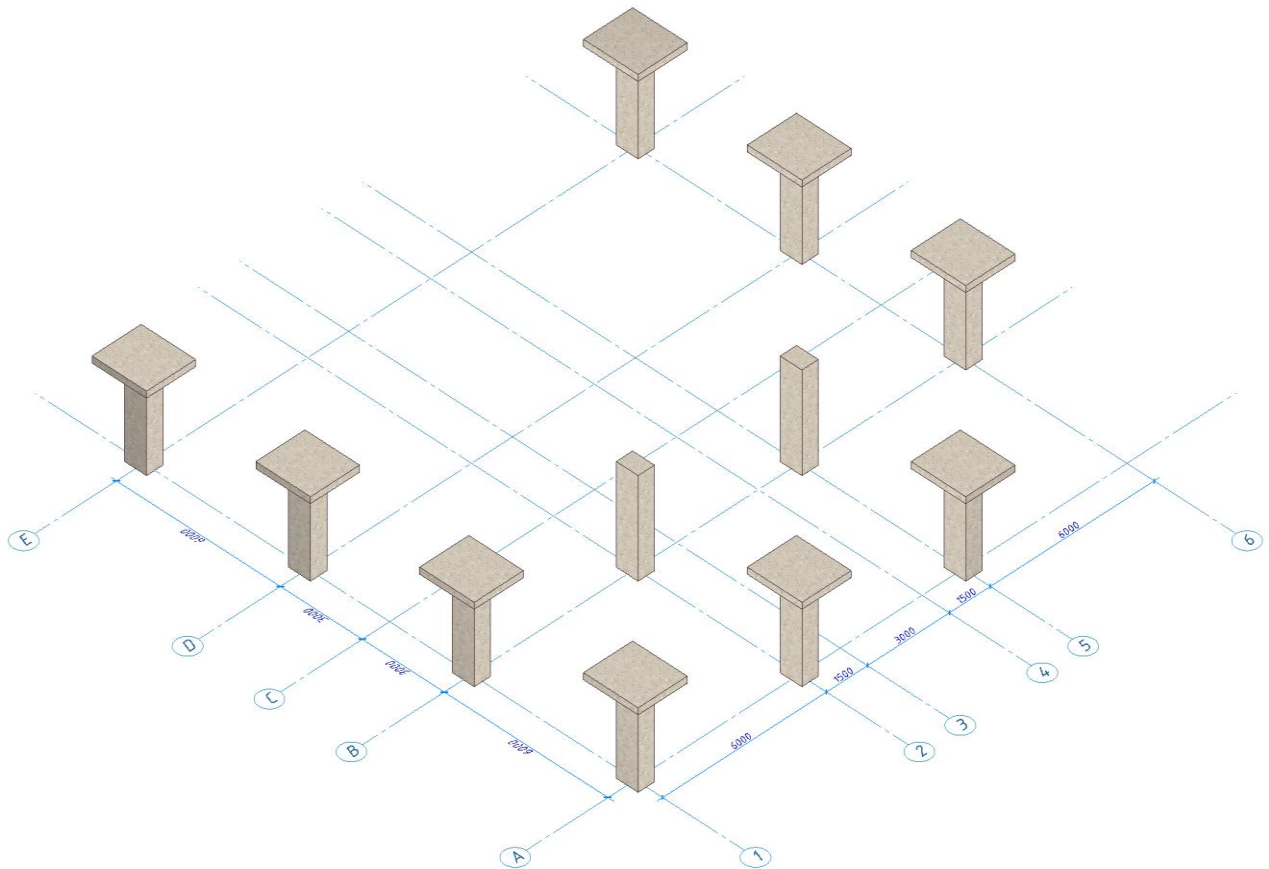

Figure 23.7. Layout of columns
- ⇒ Locate the columns at intersections of grid lines B-2 and B-5 (see Fig. 23.7).
- ⇒ Locate the columns as indicated in Fig. 23.7.